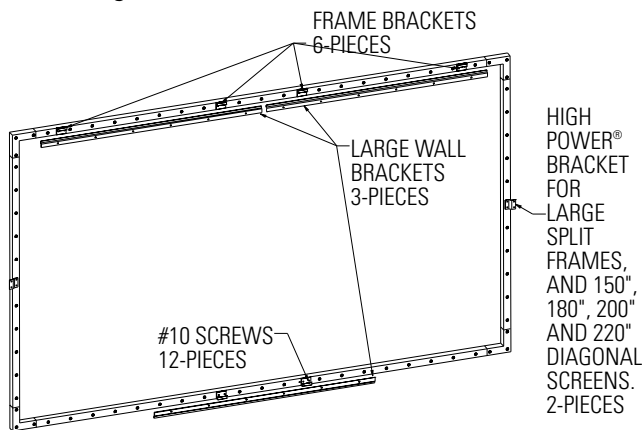

FIGURE 8
1. Use the supplied #10 screws to attach six frame brackets to the back of the frame as shown in Figure 8.
4. For 150", 180", 200", 220" and larger screens with 2-piece side frame rails you will need to attach one High Power® bracket to each side frame rail. Use the black #10 screws supplied. See Figure 8.